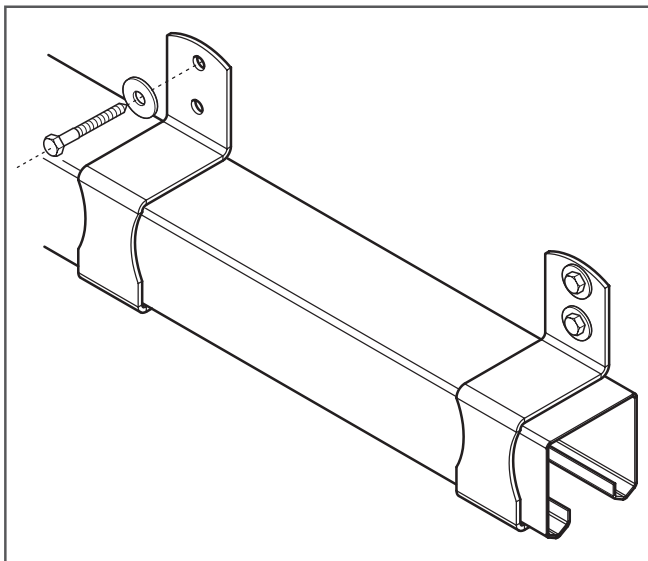

Figure 7
8. Install remaining brackets (Figure 7).